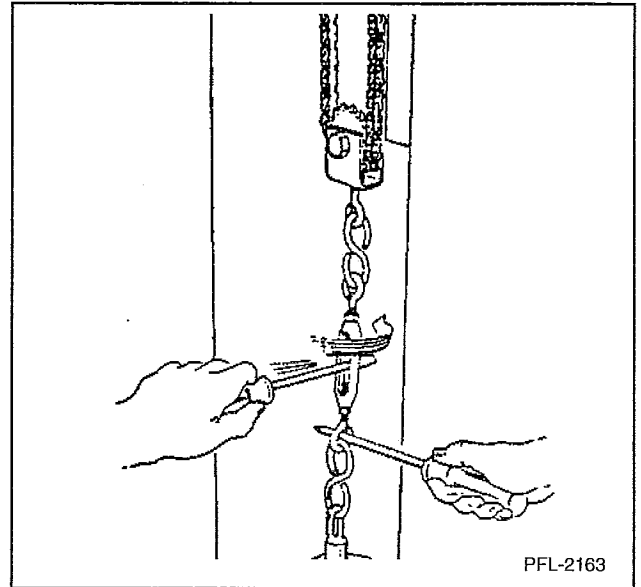
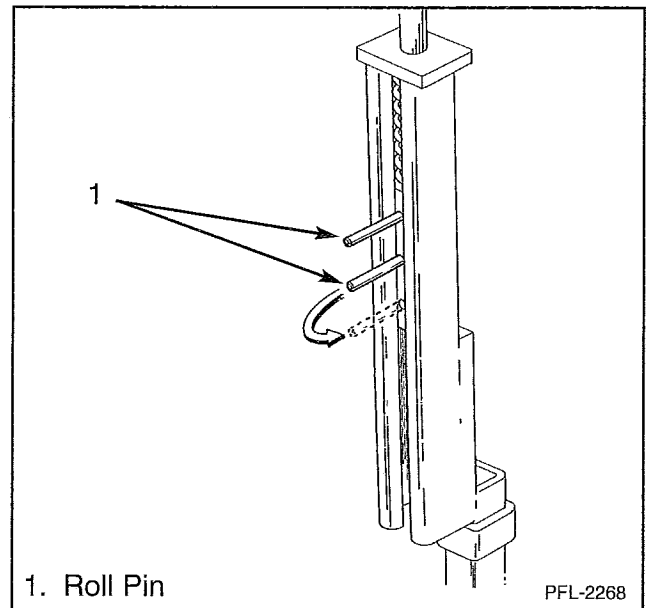

Figure 23
Figure 24
11. If carriage is hanging free from lift chains, adjust turnbuckle (Figure 23) until limit switch rod arm is centered between the two roll pins on chain tensioner bracket. See Figure 24. (Limit switch arm should be parallel to ground when set.)
12. On tall units, the excess chain movement may cause the limit switch to activate prematurely. In these cases, move the lower roll pin to the lower hole in the chain tensioner block to allow for more movement in block. See Figure 24.